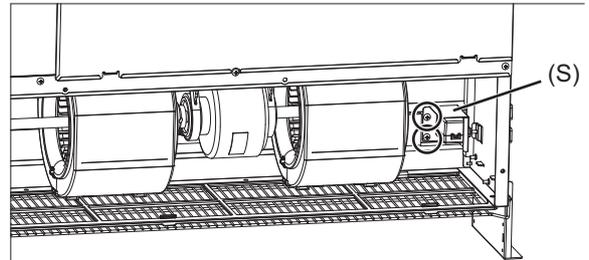

Fig. 22
- (1) Remove the two fixing screws on the R32 sensor plate (S) to remove it. (Fig. 22)